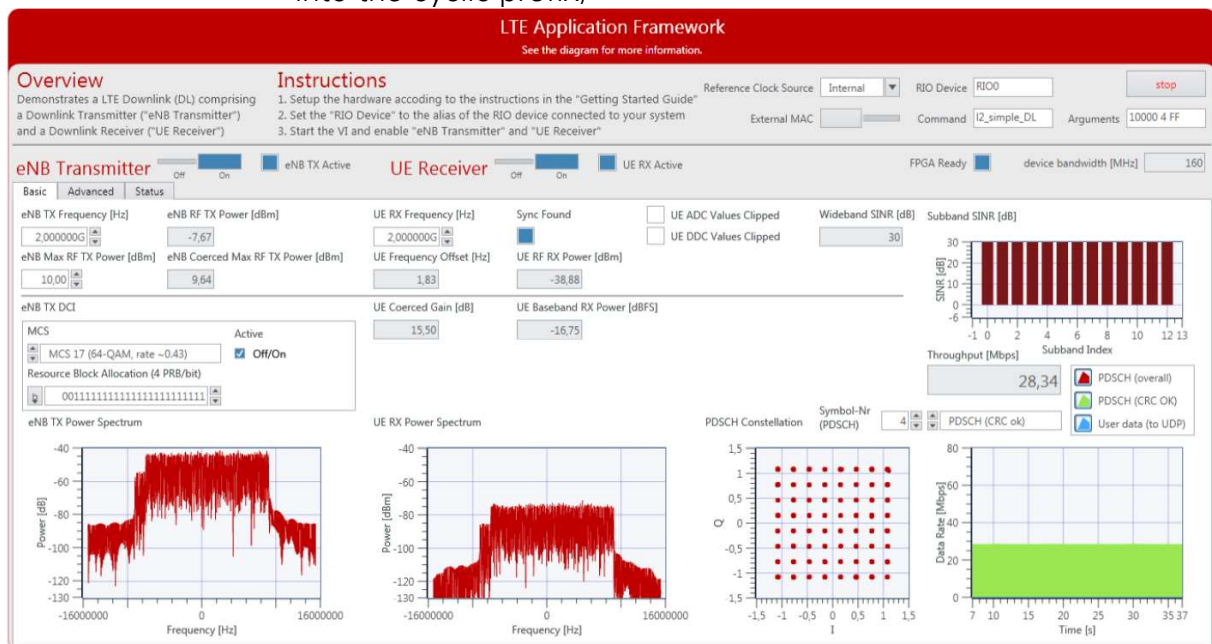

Figure 7 Front Panel of LTE Host DL.gvi / Basic Tab When Running Successfully
4. Within that project, open the LabVIEW top-level host VI in the downlink-only variant, **DL Host.gvi** in **DL Host.gcomp**. The panel of this VI is shown in Figure 7.